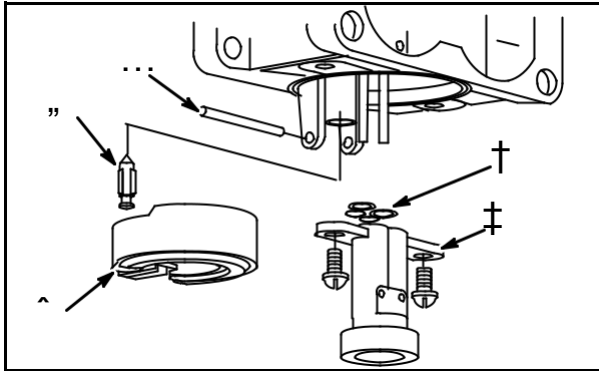

Fig. 118
Remove float hinge pin (5), float (8) and inlet needle (4), **Fig. 118**.